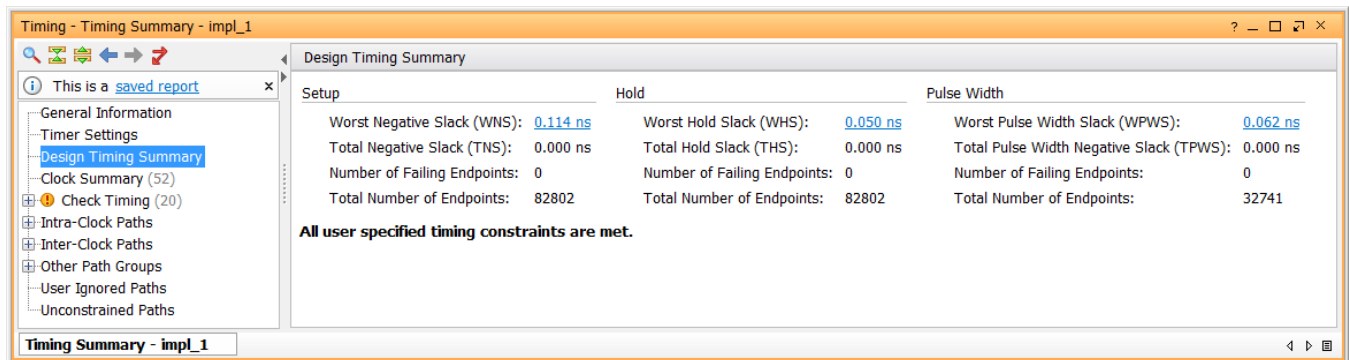

Figure 108: Timing Summary
4. Verify that all timing constraints have been met by looking at the Timing - Timing Summary window, as shown in Figure 108.